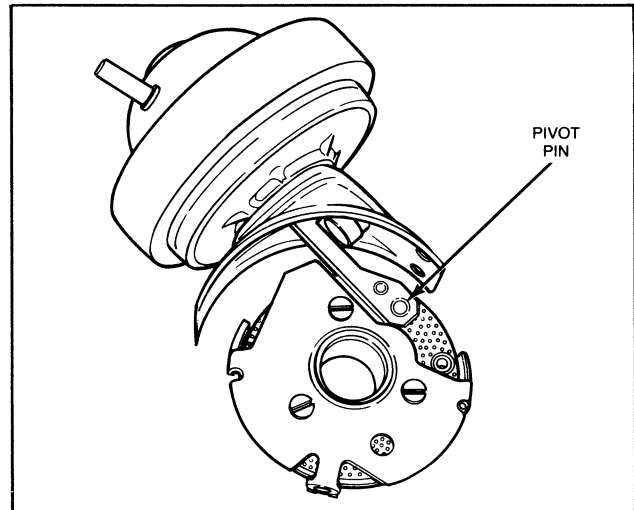

FIG. 10 Vacuum Diaphragm Pivot Pin
2. Rotate stator clockwise and hold in this position. Slide diaphragm unit actuating lever onto pivot pin (Figure 10), position unit to housing and install two retaining screws.